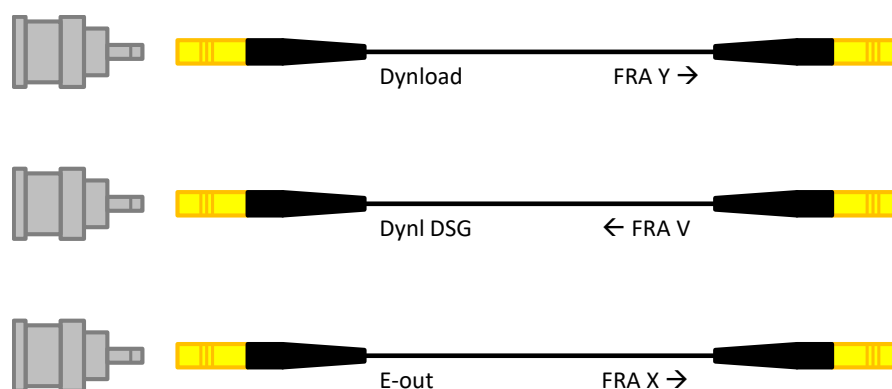

Figure 4 - Configuration of the SMB cables used in combination with the FRA32M module
- For the FRA32M module, the cables must be fitted with SMB to BNC adaptors on a single end (see Figure 4).